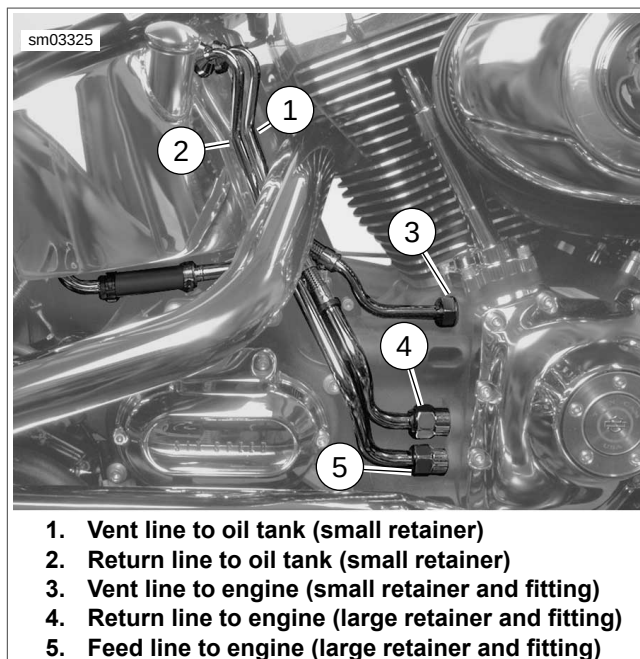
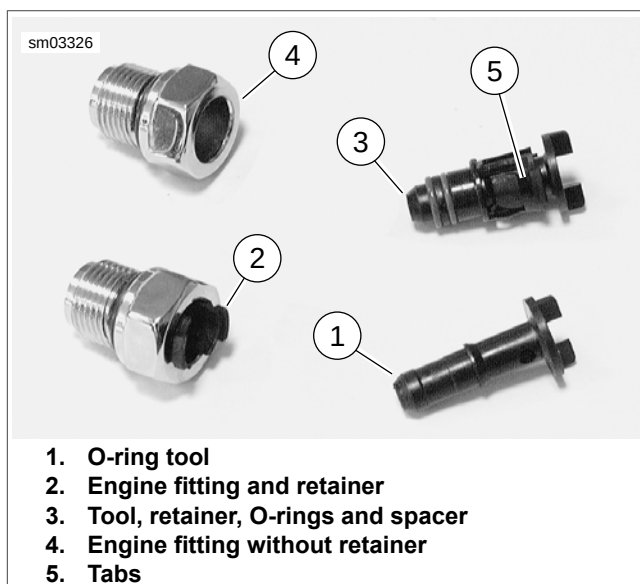

Figure 3-176. Oil Line Fittings/Retainers
Figure 3-177. Oil Line Retainers (Parts Removed From Engine for Clarity)
- See Figure 3-176. Small retainers connect the vent (1) and return lines (2) to the oil tank. A small retainer and fitting also connects the vent line (3) to the engine.
- Large retainers and fittings attach the return (4) and feed lines (5) to the engine.
- See Figure 3-177. Do not remove oil line retainers from engine fittings or oil tank unless retainers, O-rings, and/or spacers are damaged.